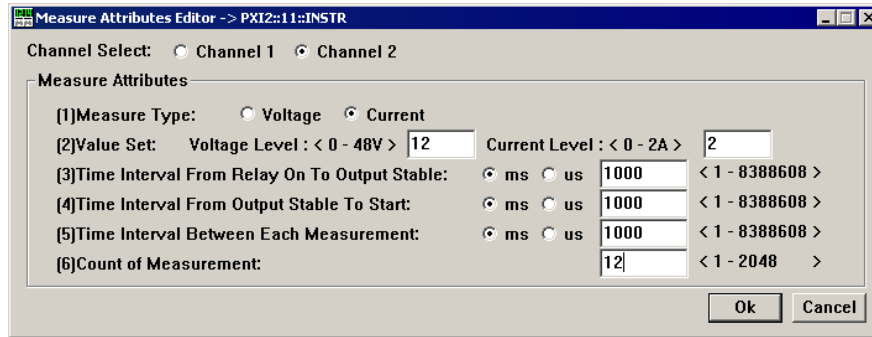

Figure 4-26 Editing Current Measurement of Channel 2 for Example 2
Step2: At the menu bar, select **Editor**→**Measure** to edit the attributes for this measurement set as shown in Figure 4-26, and then click on the “Ok” button.